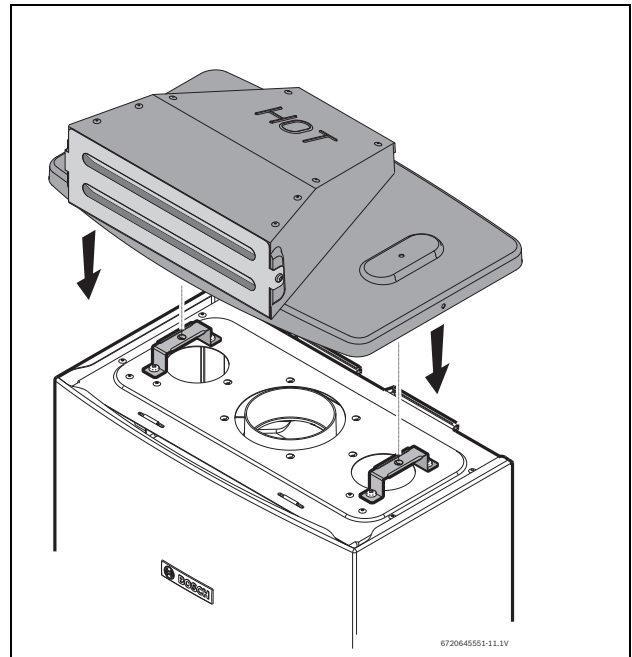

Fig. 10
- Position the outdoor vent cap on the top of the appliance, as shown in Fig. 10.